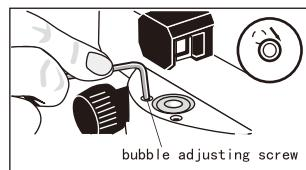

fig.9
- 2.Use align wrench turn the two adjustment screws till the air bubble moving to the center of circular bubble vial.(see fig.9)